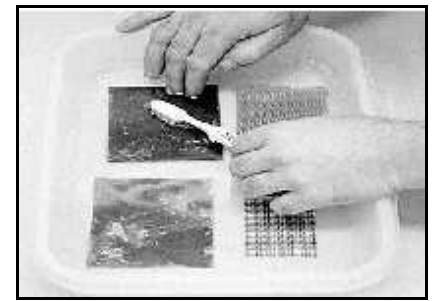

Figure 6
4. Place mica sheet totally flat on bottom of tray, and with a toothbrush, water, and dish soap gently scrub both sides of mica to remove all oxidized material from surface (SEE FIG. 6). Repeat procedure on stainless steel screen then rinse all parts in clean water. (Be carefull to not bend the screen out of shape)